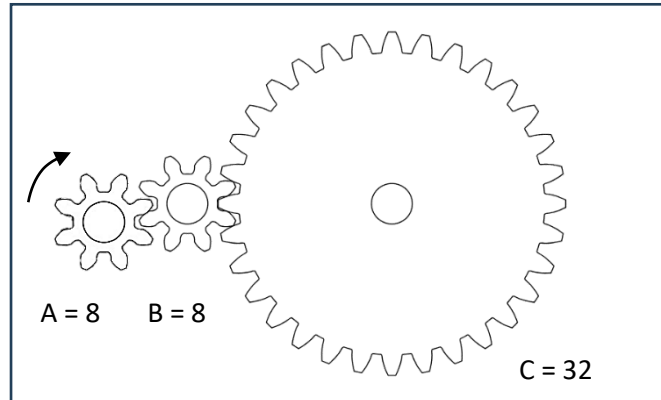

Figure 12
18. A gear system is attached to a d.c. motor. Figure 12 shows the gear system. Gear A is the input gear and is moving in clockwise direction.
a. Complete the specific name for the gear composition shown in Figure 12.
b. Draw the direction of rotation for Gear C on Figure 12. (1)
e. Figure 12 also shows the number of teeth within the gear system. Gears A and B have 8 teeth, while Gear C has 32 teeth.
i. Find the velocity ratio of the gear system. Show your working. (2)